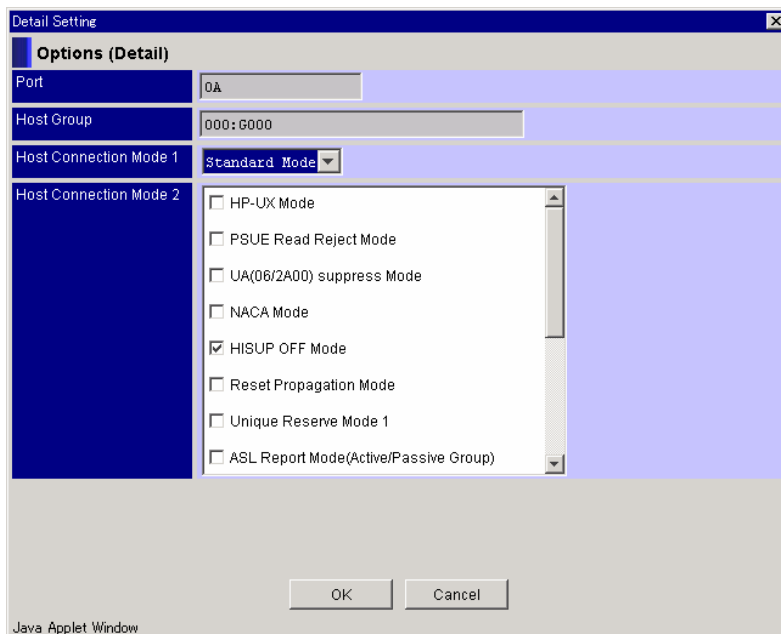

Figure 7.4 Detail Settings Dialog Box
8. Click **Detail**. See Figure 7.4.